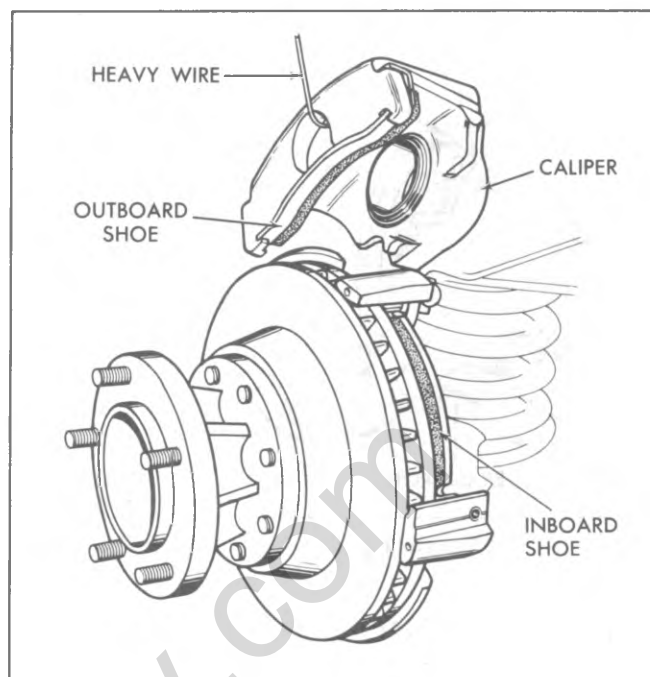

Fig. 5-34--Removing Caliper from the Disc
5. Lift the caliper off the disc and support in a raised position with a heavy wire (fig. 5-34).